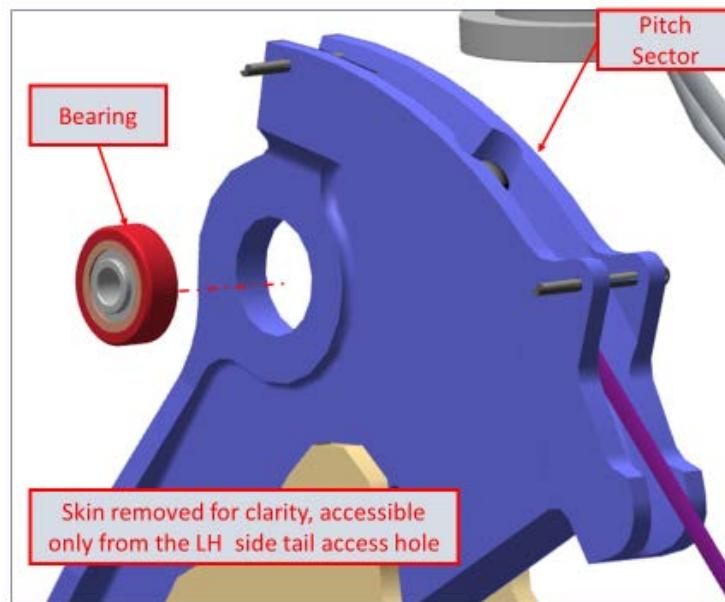

Figure 8: Bearing on Pitch Sector to Control Tube
5. Using finger pressure, press on the bearing as if to slide the bearing out of the pitch sector. If bearing is loose on the pitch sector, carefully remove the bearing and discard, Figure 8.
6. Using activator (Loctite 7471) and Loctite 603, place bearing carefully into pitch sector and ensure the bearing is centered in the pitch sector, Figure 8.